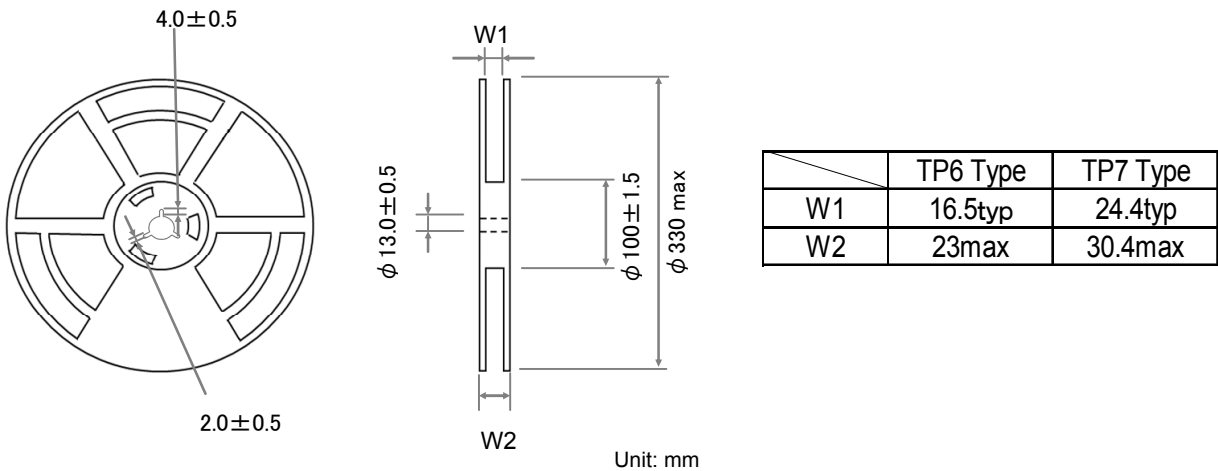

Figure 4 Reel Forms
- (1)Material: Plastic
- (2)Dimensions: The reel dimensions are as shown in Figure 4.